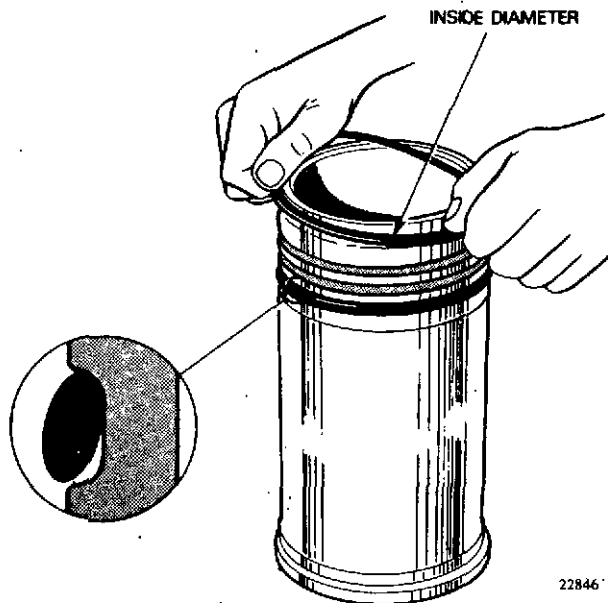
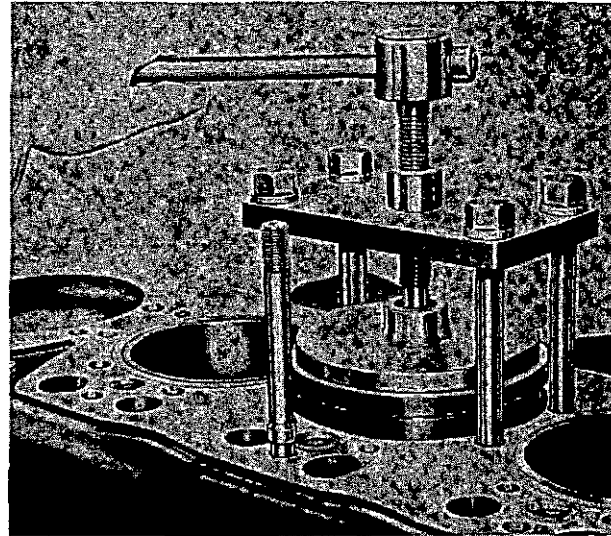
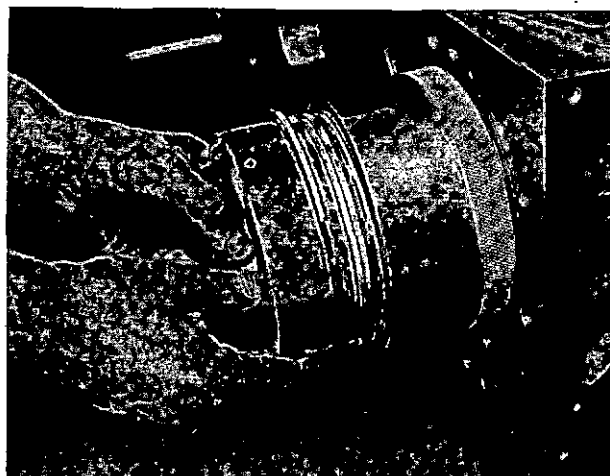
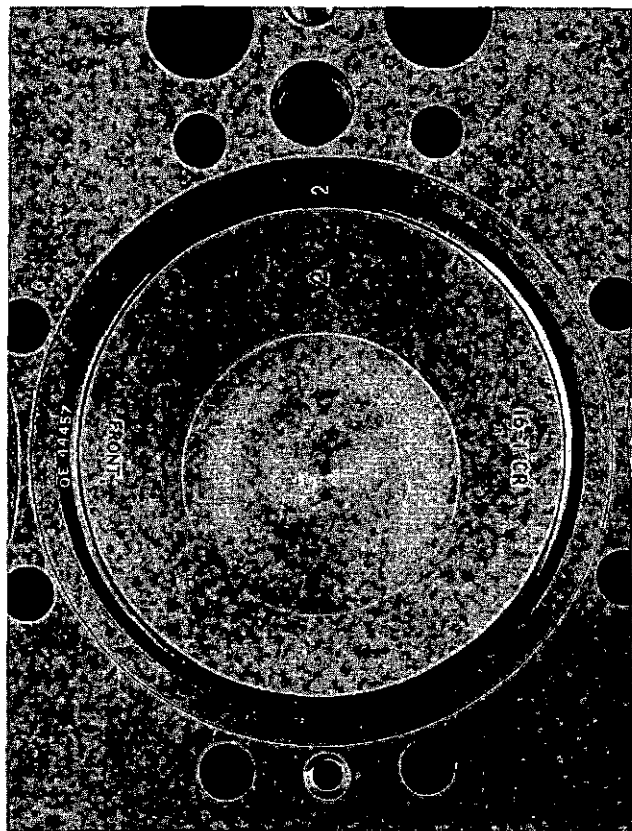

Fig. 1 Fitting liner sealing rings
Fig. 2 Pressing in cylinder liner
Fig. 13 Fitting piston and connecting rod T720041
Fig. 14 Correlation of piston and liner to crankcase
On each liner in turn, apply Linalube — Part No. OE. 45113 (NOT grease) to the skirt and fit new sealing rings as illustrated in fig. 1, ensuring that each ring takes up the position shown and is not twisted. An improved ring OE. 46017, having a blue-and-white paint marking, is now in use. Apply 'Linalube' to the crankcase in the skirt area and insert the liner into its correct numerical position (numbering is from front to rear), aligning the position number etched on the spigot to the large coolant port (fig. 14). Use tool GA. 629 to press the liner fully home (fig. 2). Do NOT drive the liner in, or damage may result.
12. **Connecting rods and pistons.** With these components assembled together as described in Section 7, oil the pistons, stagger the ring gaps and, using tool GA.12 to compress the rings (fig. 13), enter each assembly into its liner, with the relative position of piston to crankcase as shown in fig. 14. Guide the connecting-rod towards the crankpin, oil the bearings, and assemble the big-ends with the correlation marks aligned. Fit the big-end bolts, oil their threads and tighten the nuts to 160 lbf.ft. (220 Nm) or alternatively until the bolts have stretched 0.008 to 0.011 inch (0.20 to 0.27 mm). No locking is necessary.